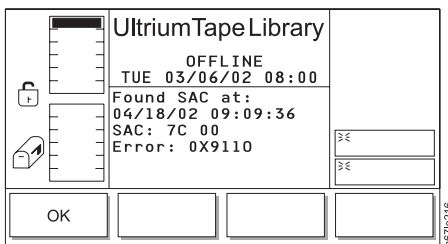

Figure 4-132. Normal Service Dialog
- To view the SAC codes and resolve the error by yourself (normal service), press the button below the **OK** softkey. The Normal Service Dialog displays a list of SACs and a message when there are no more SACs to report (see Figure 4-132). To return to the Service Menu, press the button below the **OK** softkey.